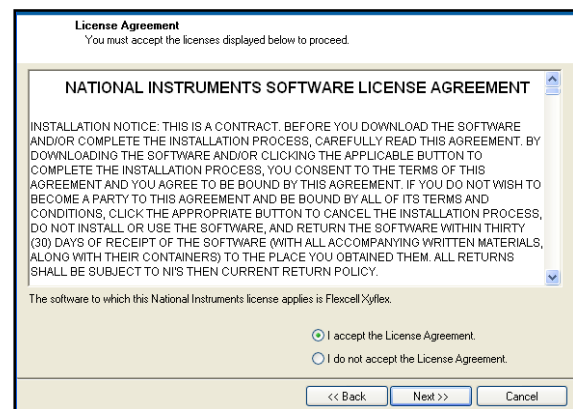

Figure 3. NI license agreement.
5. Accept the National Instruments license agreement and click *NEXT* (Fig. 3).